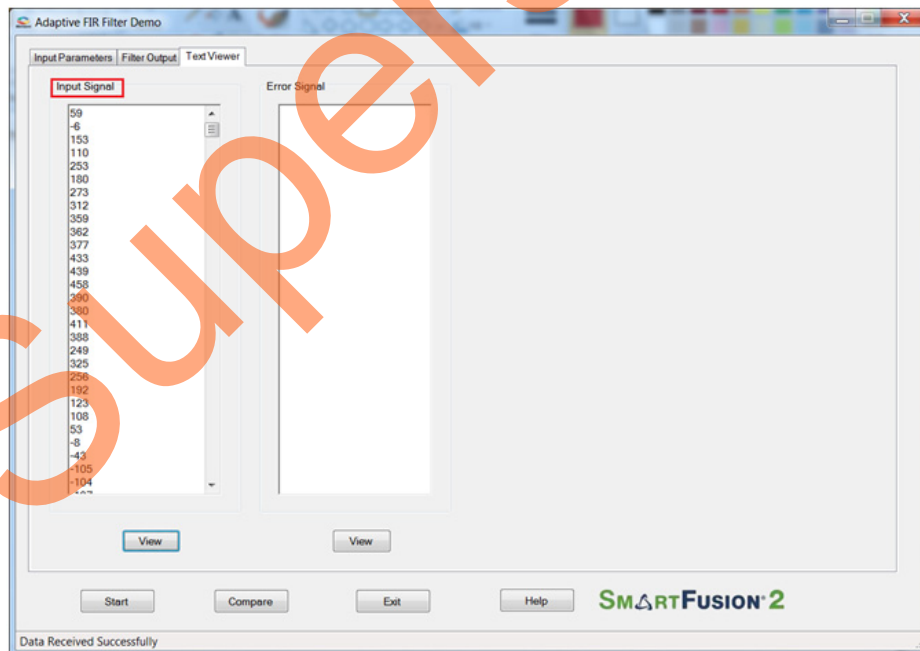

Figure 26 • Text Viewer: Input Signal Values
15. Figure 26 shows the **Text Viewer** tab showing the **Input Signal** values.